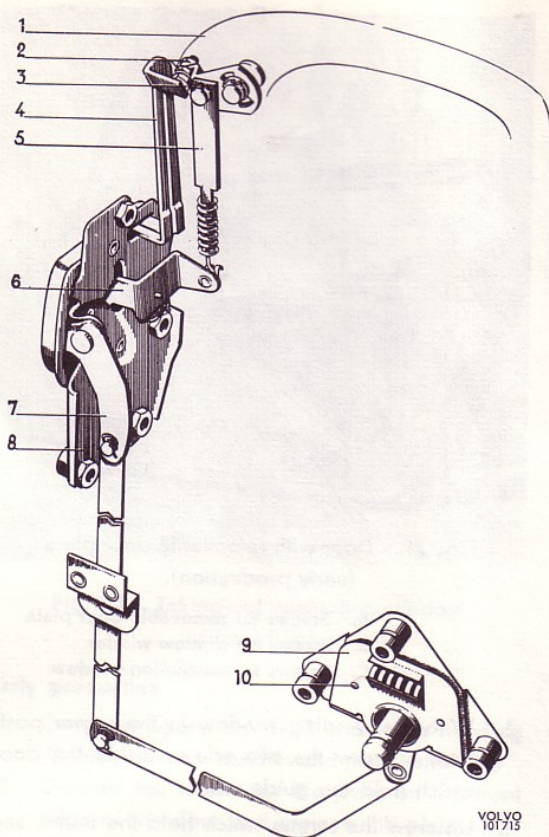

Fig. 17. Door lock with remote control.
1. Fit the lock (Fig. 17) with remote control in the door without tightening the screws for the remote control. Fit the lever between the lock and remote control.
3. Fit the link arm (5, Fig. 17) between the control lever and lock. Adjust the length of the link arm by screwing the spring out or in so that the control lever is clear of the stop plate when locked and contacts the middle of the plate when unlocked, see Fig. 17.
2. Check the clearance between the control lever and stop on the lock lever. The clearance should be 1—2 mm (about 1/16"), which is adjusted by bending the lever (4, Fig. 17).